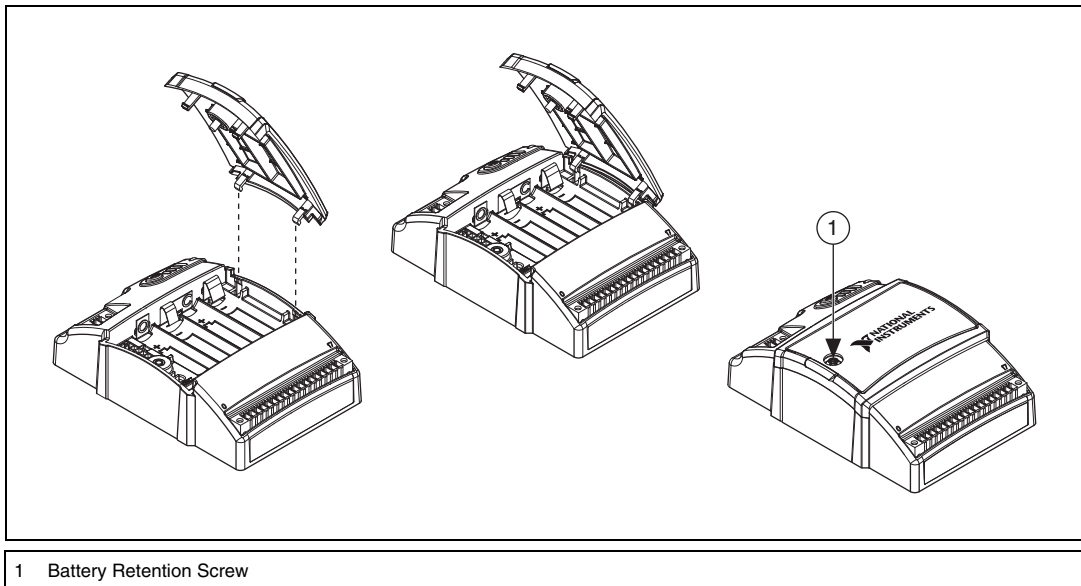

Figure 10. NI WSN-3230/3231 Battery Compartment
1. Loosen the battery compartment retention screw and remove the compartment cover, as shown in Figure 10.